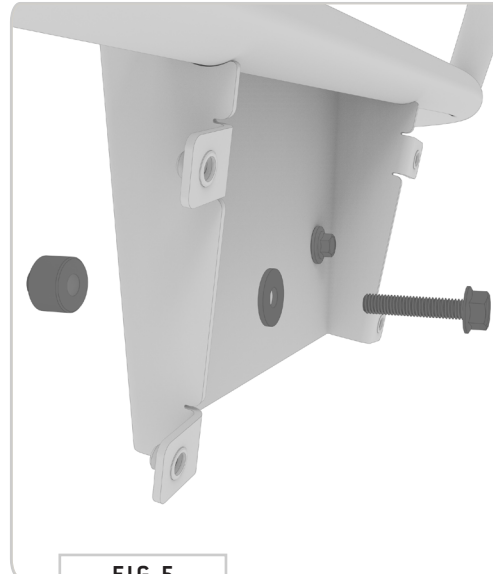

FIG 5
2.1 Attaching the Nudge Bar: Gather the **Nudge Bar**, **M8-1.25 x 40 Flanged Hex Head Screws**, **M8 Flat Washers**, and **Plate Spacers** (FIG 5+6).